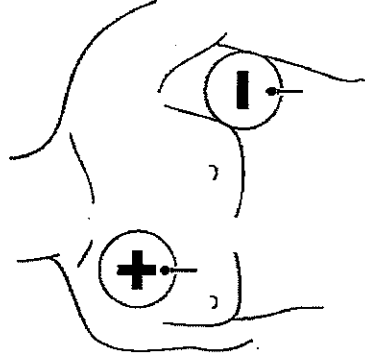

Figure 5-4 Anterior-lateral electrode placement for pacing
- 7A** Place the black **ANTERIOR (-)** electrode on the left anterior torso, just lateral to the left of the nipple in the midaxillary line. This corresponds to the V₆ electrode position (see Figure 5-4).
- 8A** Place the red **POSTERIOR (+)** electrode on the right anterior upper torso subclavicular area lateral to the sternum (see Figure 5-4).
When using noninvasive pacing on unconscious patients, the patient's level of consciousness may improve during pacing. Patient discomfort associated with noninvasive pacing may occur. Discomfort may be minimized by administration of a sedative or analgesic or movement of the anterior (negative) pacing electrode to the V₆ electrode position (see Figure 5-4). Repositioning of the negative pacing electrode may result in a lower capture threshold, thus reducing discomfort.